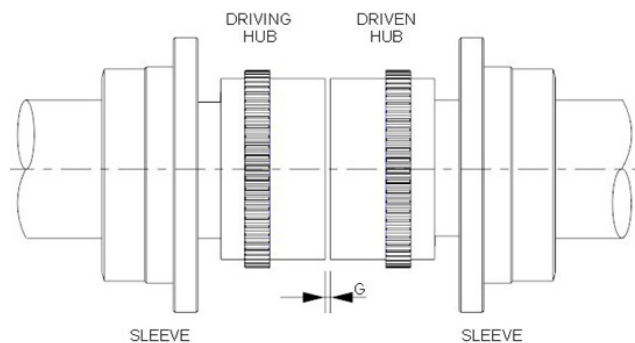

Fig.3 Hub mounting
- Remove coupling bolt (1) and separate hubs from transmission unit (fig.3).
- Slide the sleeve having internal teeth with rubber o-ring on shafts.(Fig 3)
- Mount the hubs having external teeth on their respective shafts flushed with the faces of hubs as shown in Fig. 3.
- Disengage sleeve by removing coupling bolts (1) from sleeve.
- Ensure hubs have been mounted as shown in fig.3, to maintain correct Gap 'G'.